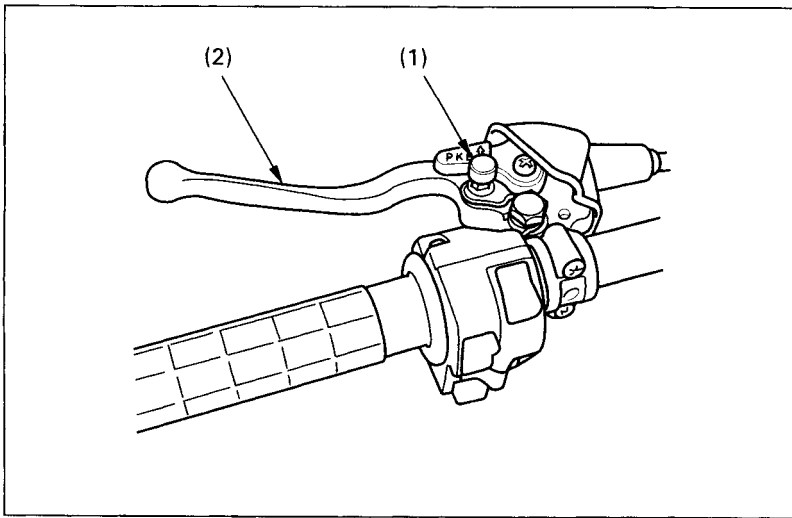

Fig. 2-23 (1) Reverse selector knob (2) Rear brake lever
The reverse selector knob (Fig. 2-23) (1) is on the rear brake lever.